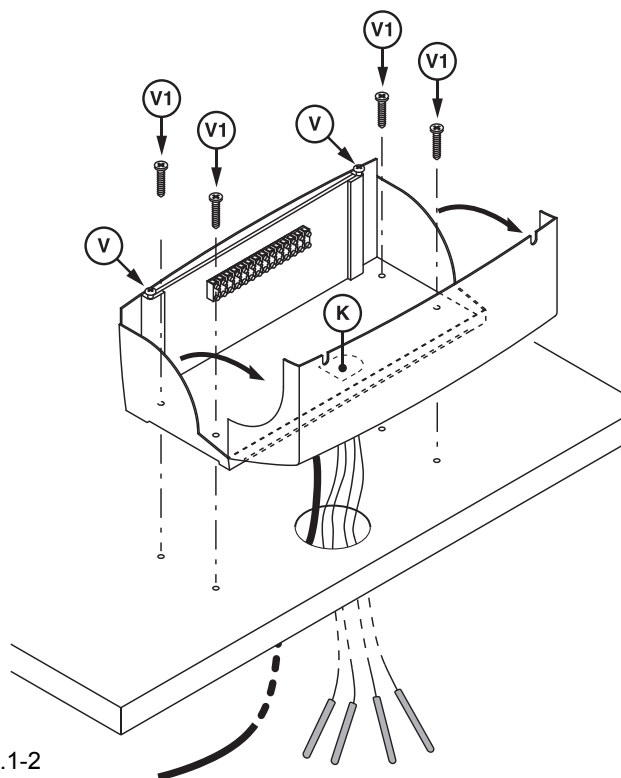

Fig. 11.1-2
- Loosen screw (V) and rotate towards you the frontal part of the electric control panel (see fig.11.1-2) and remove the half cut plastic plate K
- Pass the burner connection plug through the slot on the lower side of boiler front plate and insert the thermometer and thermostats bulbs in the slot on panel (5) and in the wells P1 and P2.
- Fit the panel (5)